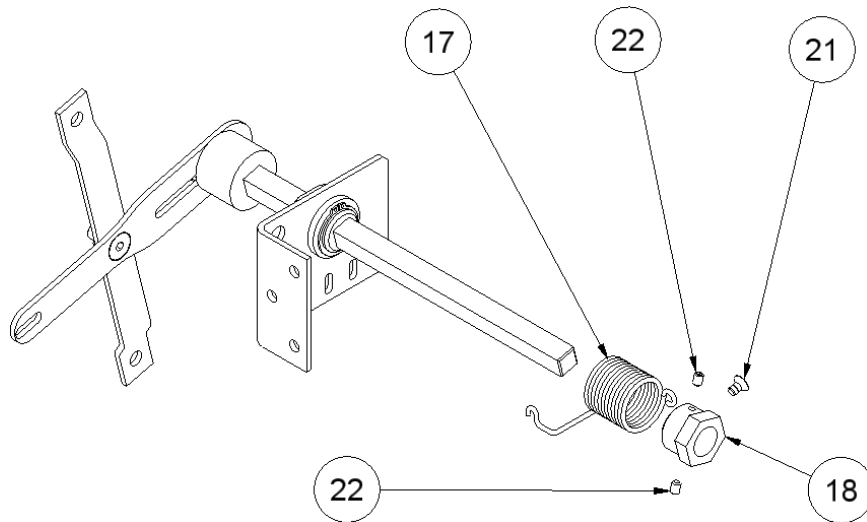

Figure. 6
is fixed to the driving bar arm through two M6x8 DIN913-45 H (18). The tensor must be prestressed in order to allow the spring to keep the handle in the lower position. – Fig. 6 –.